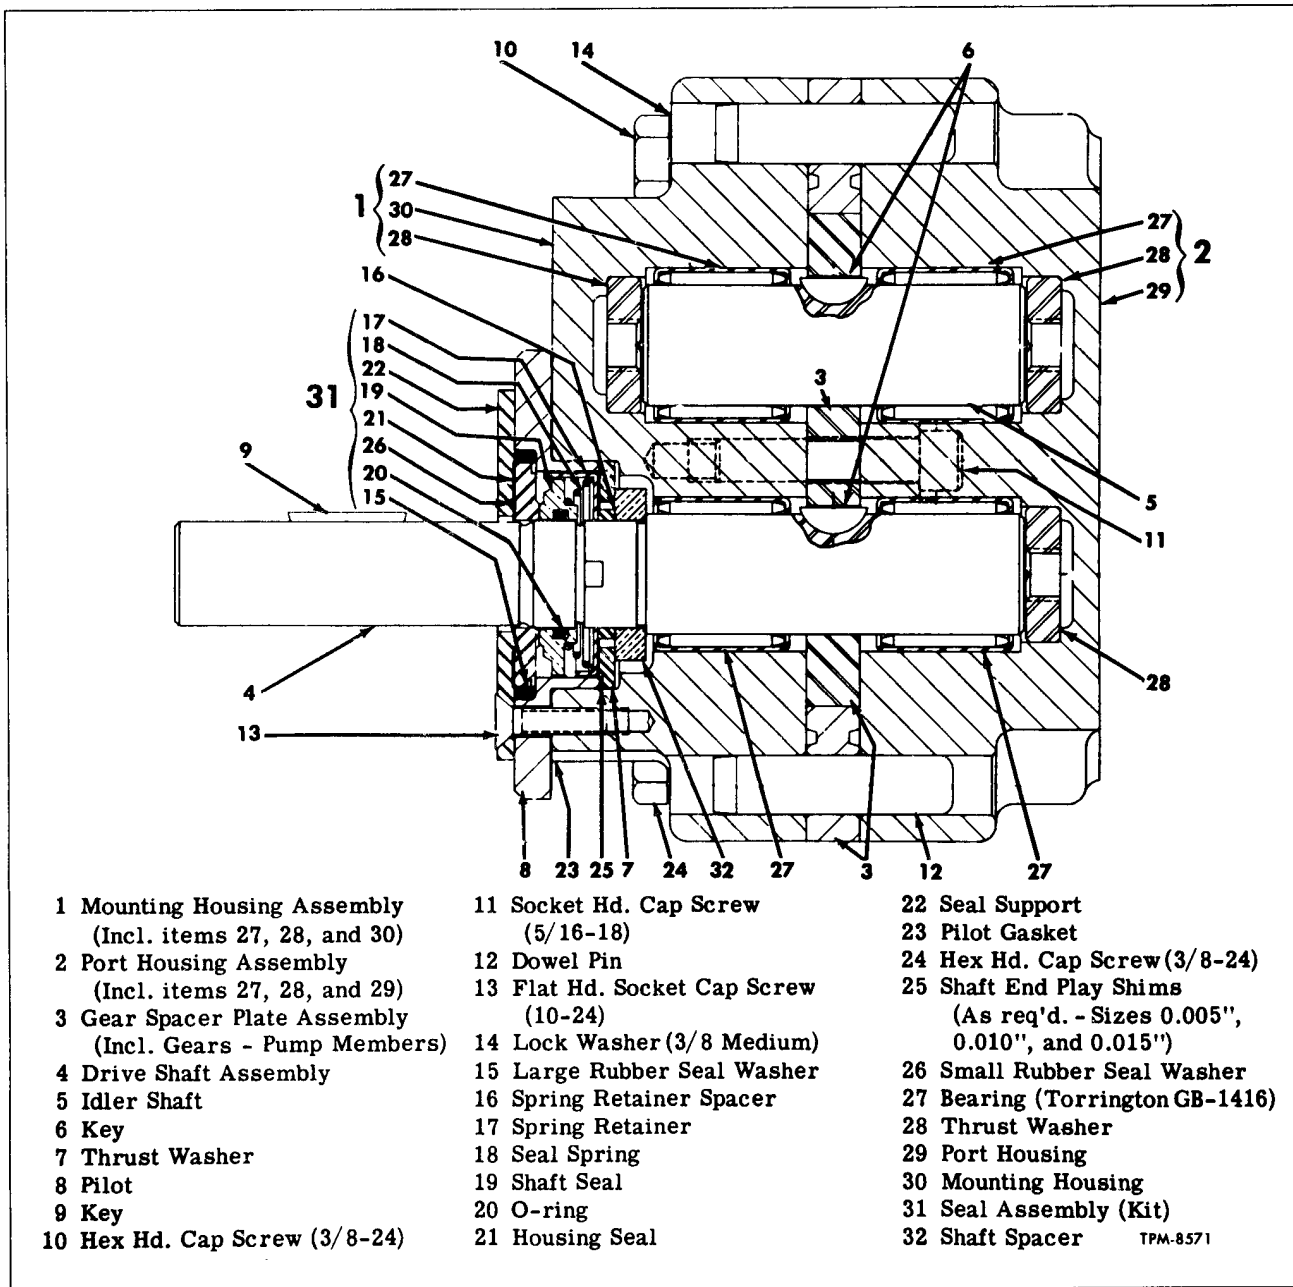

Figure 28—Sectional View of Fan Drive Fluid Pump
NOTE: Key numbers in following text refer to figure 28.
1. Making sure grooved side of thrust washers (28) are up, carefully drive each washer into recess. Use a wood or soft metal driver.
2. Using a suitable bearing installer, press bearings (27) into housing recess to distance shown in figure 28.
3. Insert drive shaft (4) into mounting housing (30), then press shaft spacer (32) onto shaft until it butts on shoulder of shaft.
4. Assemble drive keys (6), gear and plate assembly (3) idler shaft (5) and install into position making sure alignment marks made prior to disassembly are aligned. Install port housing (29).
5. With dowel pins positioned as shown in figure 28, drive pins to finally locate pump major units.
6. Install two cap screws (11), six cap screws (10), and two cap screws (24) securing pump components together. Final tighten all cap screws evenly and firmly.
7. Referring to figure 28 which shows position of shaft seal components, install shaft end play shims (25) if used, spring retainer spacer (16) and thrust washer (7).
8. Install spring retainer (17) over shaft and rotate until it drops in place on two flats of shaft.
9. Insert seal spring (18) into recess. Make sure large end of spring is inserted first.
10. Install small O-ring (20) into internal groove of shaft seal (19). Grease O-ring surfaces.
11. Carefully lower shaft seal (19) with installed O-ring (20) and register small end of seal spring (18) over hub. Make sure sealing surface of shaft seal (19) is located outward. Position shaft seal (19) with three slots to match three prongs on spring retainer (17). Compression of spring will be accomplished in final assembly.
12. Install large rubber seal washer (15) into pilot (8) and press housing seal (21) into pilot assembly. Be sure sealing surface of housing seal (21) is installed in the downward position to match sealing surface on shaft seal (19). Large rubber seal washer should be pressed down uniformly and flush with face of pilot (8). Outward face of housing seal